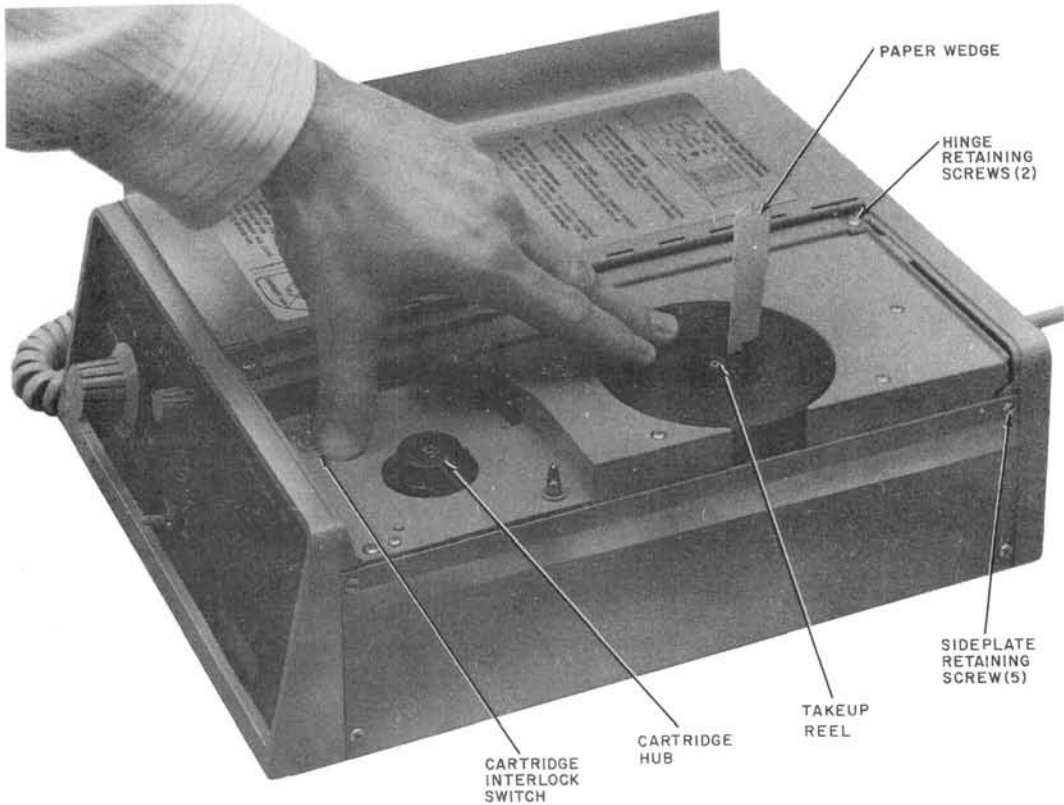
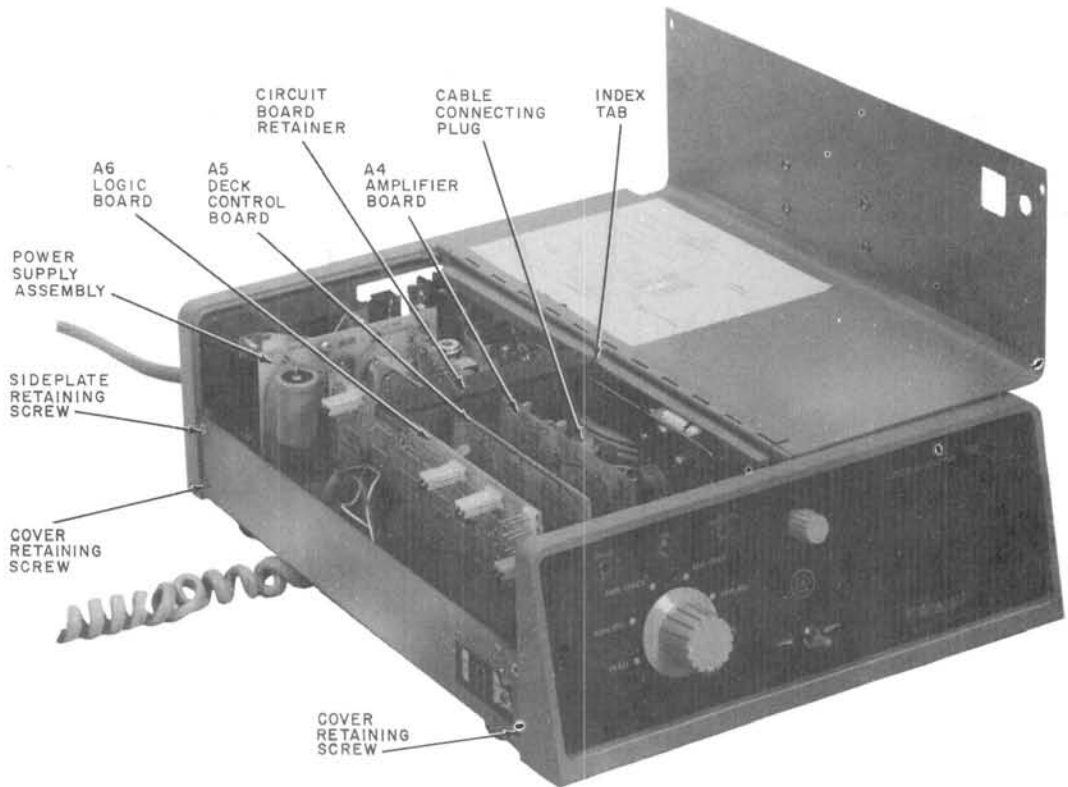

Fig. 2—Resetting "0" Registration on Message Indicator Dial
Fig. 3—Top Cover Removed, Internal View of Components
- (3) Verify the message tape is not at the end limit by making certain that the message indicator dial is reading less than 80.
- (4) Check phone connection at set terminal board for type of service.
- (5) Remove cover retaining screws from left side.
- (6) Lift left side cover and remove circuit board retainer.
- (7) Remove power cord from ac outlet.
- (8) Check options for proper selection.
- (9) Check that A4, A5, and A6 circuit boards are properly installed.
- (10) Check that cable connecting plugs for power supply and tape deck (Fig. 6) on the interconnect board and the cable connecting plug on the A4 board (Fig. 3) are firmly in place.
- (11) Replace circuit board retainer, left side cover and reinsert ac power cord.
- (1) Manual method (Fig. 2).
- (2) Rapid rewind method (Fig. 2).
##### 4.01 Plug-in Circuit Boards (A4, A5, and A6; Fig. 3).
- (1) Remove top cover (Fig. 3).
- (d) Remove two hinge retaining screws (Fig. 2).
(2) Remove tape deck.
- (a) Remove cable connecting plug for A4 circuit board (Fig. 3).
- (g) Install cable connecting plug for A4 (Fig. 3).
- (6) Install cover.
- (d) Open left side of cover and install circuit board retainer (Fig. 3).